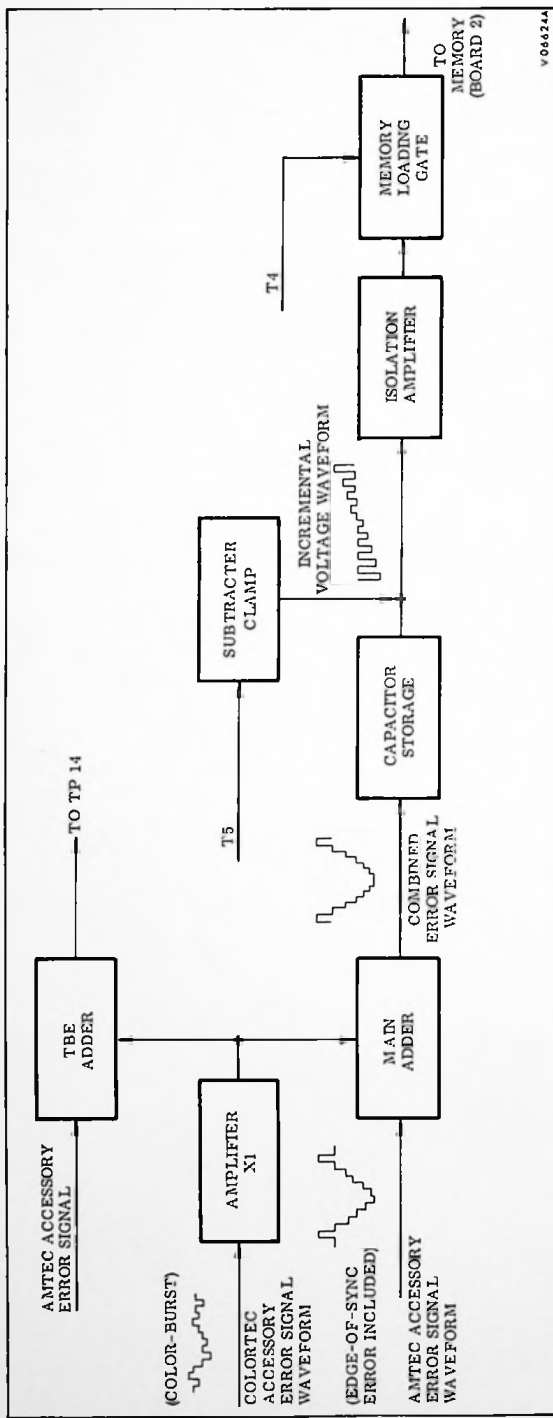

Figure 4.2-2. Write Function Block Diagram
4.2-17 GENERAL. The circuits of board 9 perform two functions: processing error signals from the Colortec and Amtec accessories into the memory, and processing the two error signals in a separate adder for quick-look purposes at TP014 (Figure 4.2-2). Chapter 6 of this manual contains the schematic diagram for board 9.